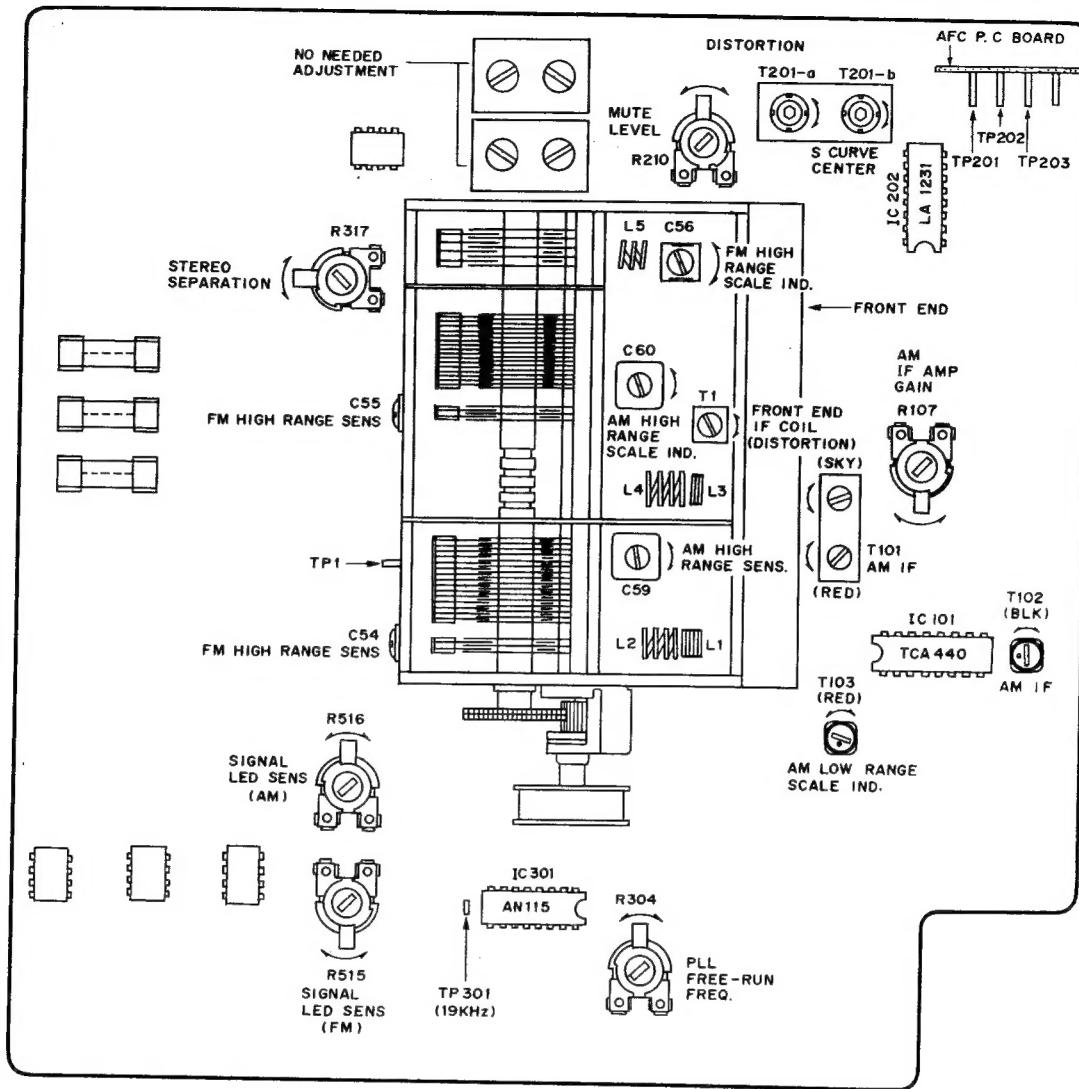

Fig. 4 Tuner P.C. Board
1. FM TUNER SECTION ADJUSTMENT (Refer to Figs. 4, 5)